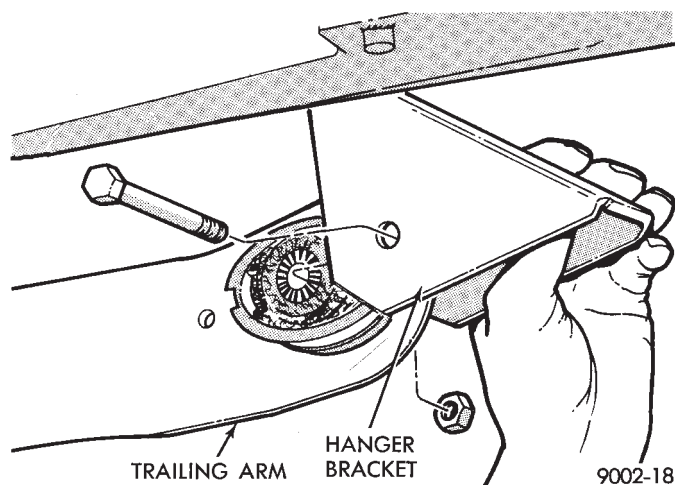

Fig. 7 Remove Hanger Bracket
(4) Remove hanger bracket to frame rail bolts (Fig. 7).
(5) Lower axle assembly down enough to remove pivot bolt and hanger bracket (Fig. 7). Right side trailing arm shown.